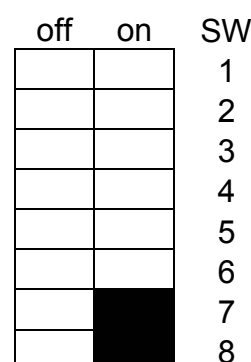

Fig. 5
13. Set the Rinnai Infinity to 'Forced High' combustion by setting no. 7 and no. 8 dipswitches to 'ON'. (Fig.5) Ensure maximum water flow.